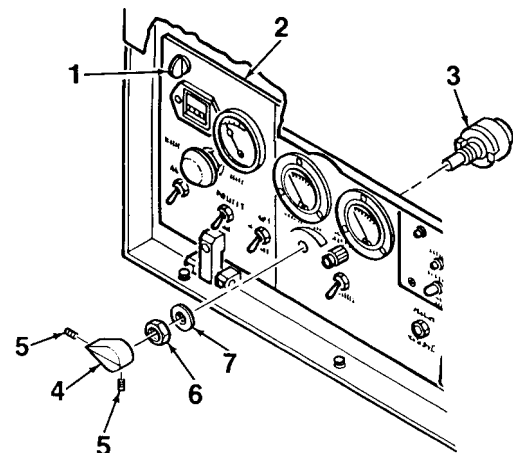

Figure 4-14. VOLTAGE ADJUST Rheostat
1. Remove knob (4, Figure 4-14) from shaft of VOLTAGE ADJUST rheostat (3) by loosening setscrews (5).
2. Turn quarter-turn fasteners (1) to unlock and open control panel (2).
3. Remove rheostat (3) from control panel (2) by removing attaching nut (6) and lockwasher (7).
4. Peel back heat shrink tubing to expose electrical wires on rear of rheostat (3). Using a soldering iron, detach electrical wires from rear of rheostat.
1. Connect electrical wiring to the rear of VOLTAGE ADJUST rheostat (3, Figure 4-14) and secure using soldering iron. Cover connection with heat shrink tubing and secure using heat gun.
2. Mate rheostat (3) to rear of control panel (2) and install using lockwasher (7) and nut (6).
3. Close control panel (2) and lock in place using quarter-turn fasteners (1).
4. Secure knob (4) to shaft of rheostat (3) by tightening setscrews (5).